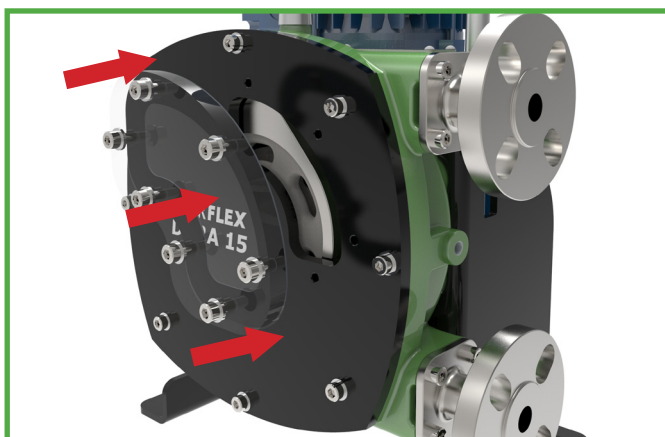

Figure 13 Fitting the Inspection Window
3. Mount the window unit, with the bolts and gasket, over the front cover, aligned as shown in Figure 13.